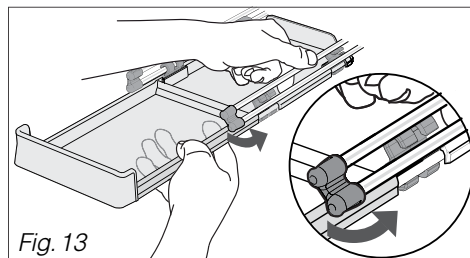

Fig. 13
- Holding the drawer with one hand, disengage the runner from its hooks, pushing out the lower rod (fig 13). Repeat this process for the other runner.